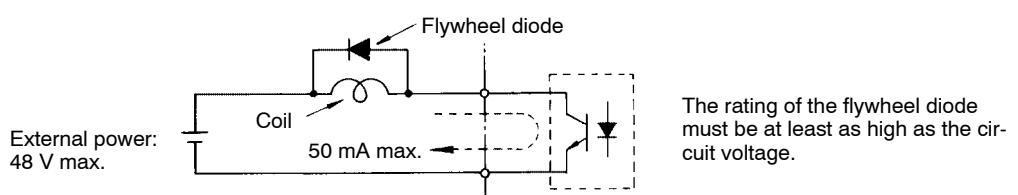

Fig 3.18 Flywheel Diode Connection
* When driving an L load, such as a relay coil, always insert a flywheel diode as shown in *Figure 3.18*.
When driving an L load, such as a relay coil, always insert a flywheel diode as shown in *Figure 3.18*.